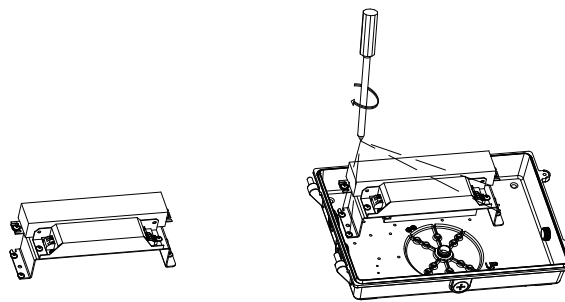

figure 1
**STEP 1)** Put the assembled emergency package on the corresponding hole of the wall lamp base, and fix it with 4PCS PWM4\*6 screws (as shown in the figure 1).